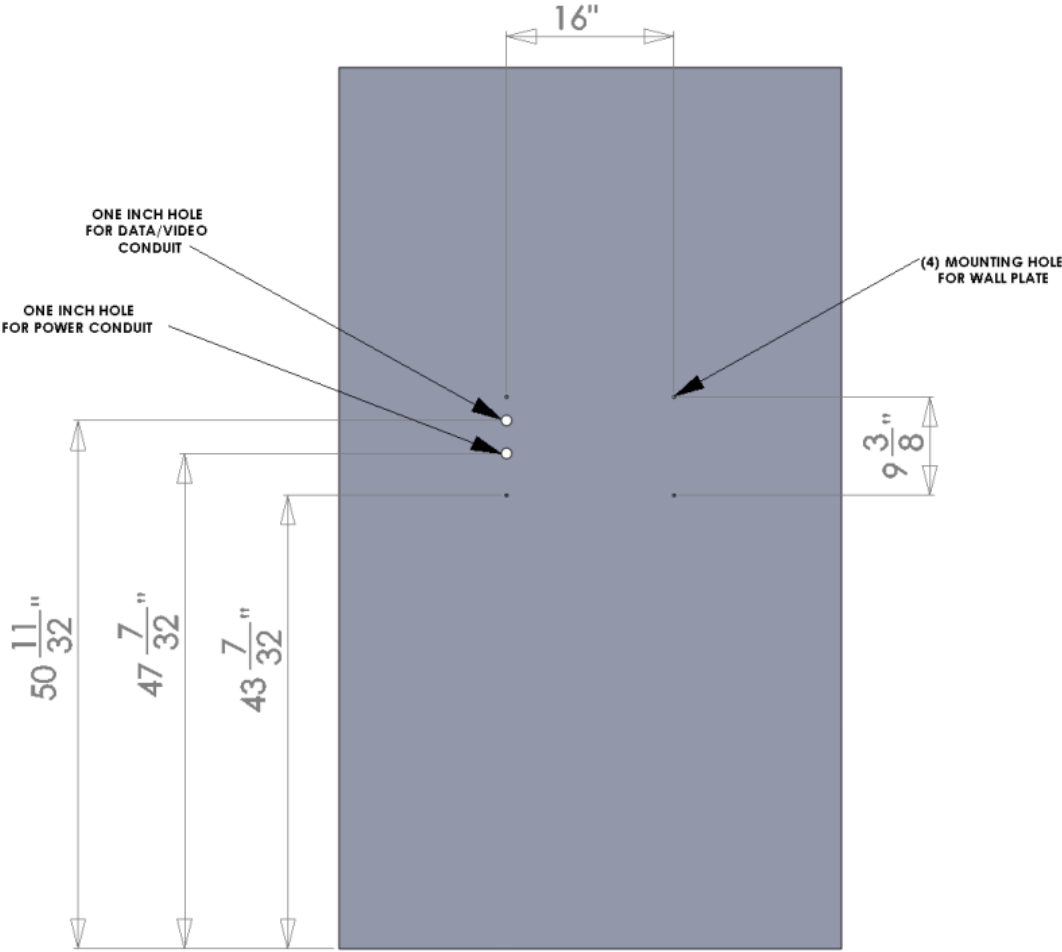

Figure 1: Wall Mounting Template
- Figure 1: Wall Mounting Template9